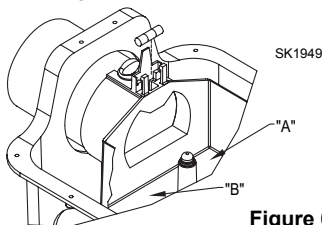
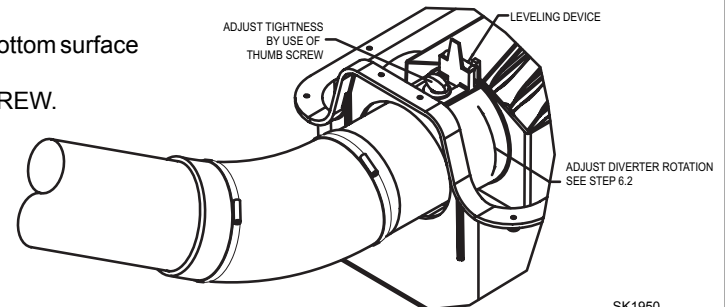

Figure 6.1
Figure 6.2
- 6.1) Snap level into the diverter. See Figure 6.1.
- 6.2) Level the diverter by use of the thumb screw and tap the bottom surface of the diverter at "A" & "B" see Figure 6.1. See Figure 6.2. **DO NOT OVER TIGHTEN THUMB SCREW.**
- 4) Using the $\frac{3}{4}$ " pipe, or by hand, tap at point "A" or "B" on the bottom surface of the diverter until the diverter is level. See Figure 6.1.